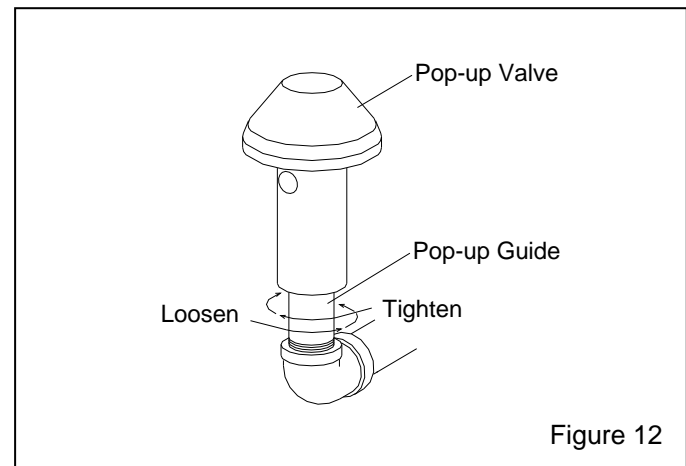

Figure 12
7.9 Pop-up Valve Replacement, Figure 12